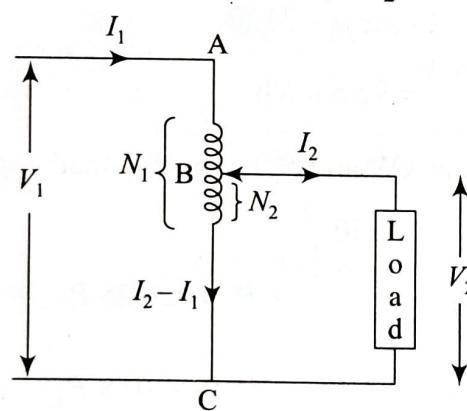

Figure 3.30 Autotransformer
Figure 3.30 shows an autotransformer. The winding AC with N_1 number of turns is connected across V_1 supply, whose induced emf is E_1 . Let the winding BC consists of N_2 turns and terminal voltage V_2 , whose induced emf is E_2 . But $E_2/E_1 = N_2/N_1$ if the circuit is closed through the load, then E_2 drives a current I_2 through the load. Here the two mmfs $N_1 I_1$ and $N_2 I_2$ will be equal and opposite. If B is a variable point then the output voltage V_2 is varied.
- (i) Step-down autotransformer.** In Figure 3.30, if V_1 is greater than V_2 it is called as step-down autotransformer. According to ideal condition
The currents are distributed through the windings as shown in Figure 3.30. The VA delivered to the load is $V_2 I_2$
But in an autotransformer (Figure 3.30) the turns $(N_1 - N_2)$ across AB carry a current of I_1 . The weight of copper in section AB is proportional to $(N_1 - N_2)I_1$. In the same way, the turns N_2 across BC carry a current of $(I_2 - I_1)$. The weight of copper in section BC is proportional to $N_2(I_2 - I_1)$.